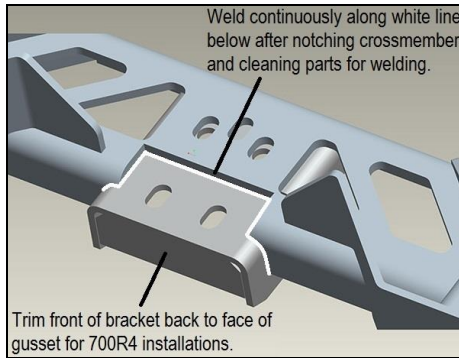
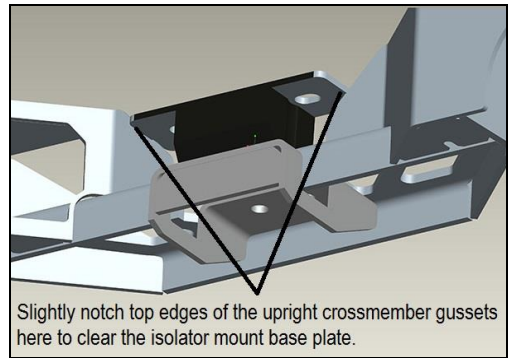

Figure 2
Figure 3
3. Attach the bracket to the crossmember placing the supplied bolts and nuts in the holes that pass through both the bracket and crossmember (**Figure 2**).
4. If you are using this kit to install a 700R4 transmission, trim the front of the bracket off so that it is even with the front edge of the bracket gusset plate (**Figure 2**) and slightly notch the top edges of the upright crossmember gussets to clear the isolator mount base plate (**Figure 3**). If you are using this kit to install a Powerglide or TH350, leave the bracket length as-is, as you will be attaching the transmission mount to the forward set of holes in the bracket.
5. Once notching/clearancing is complete, clean parts and weld them together using either a MIG or TIG welder (**Figure 2**) and spot-paint as desired to match.